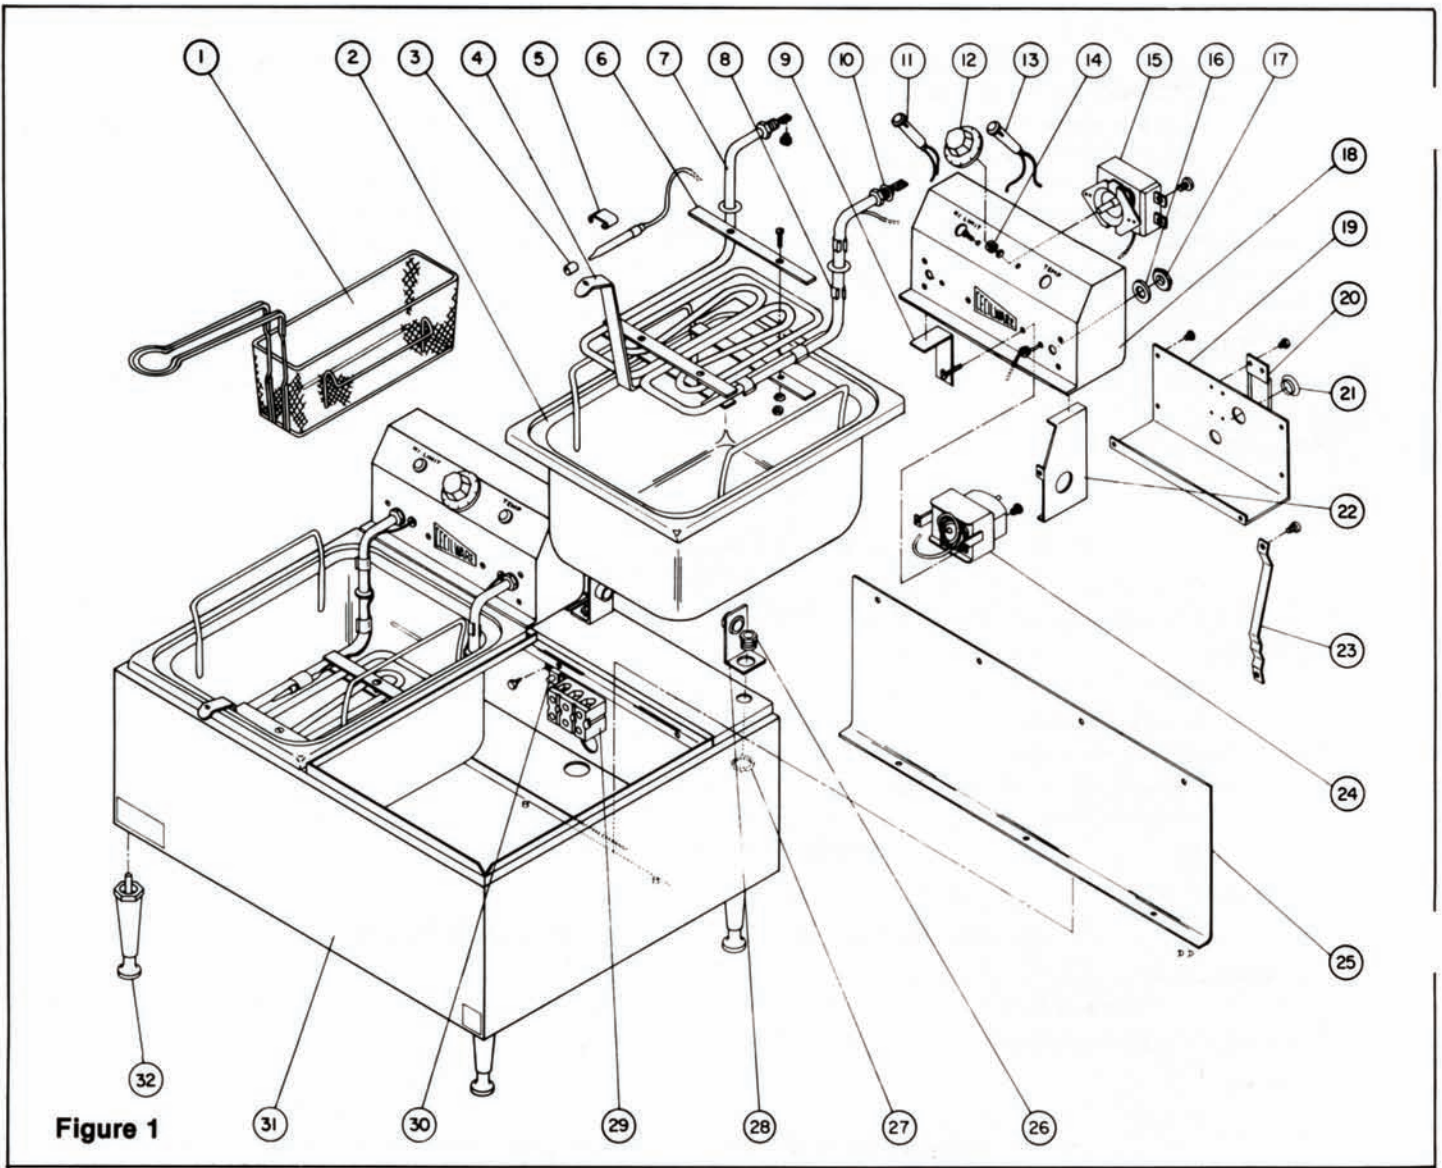
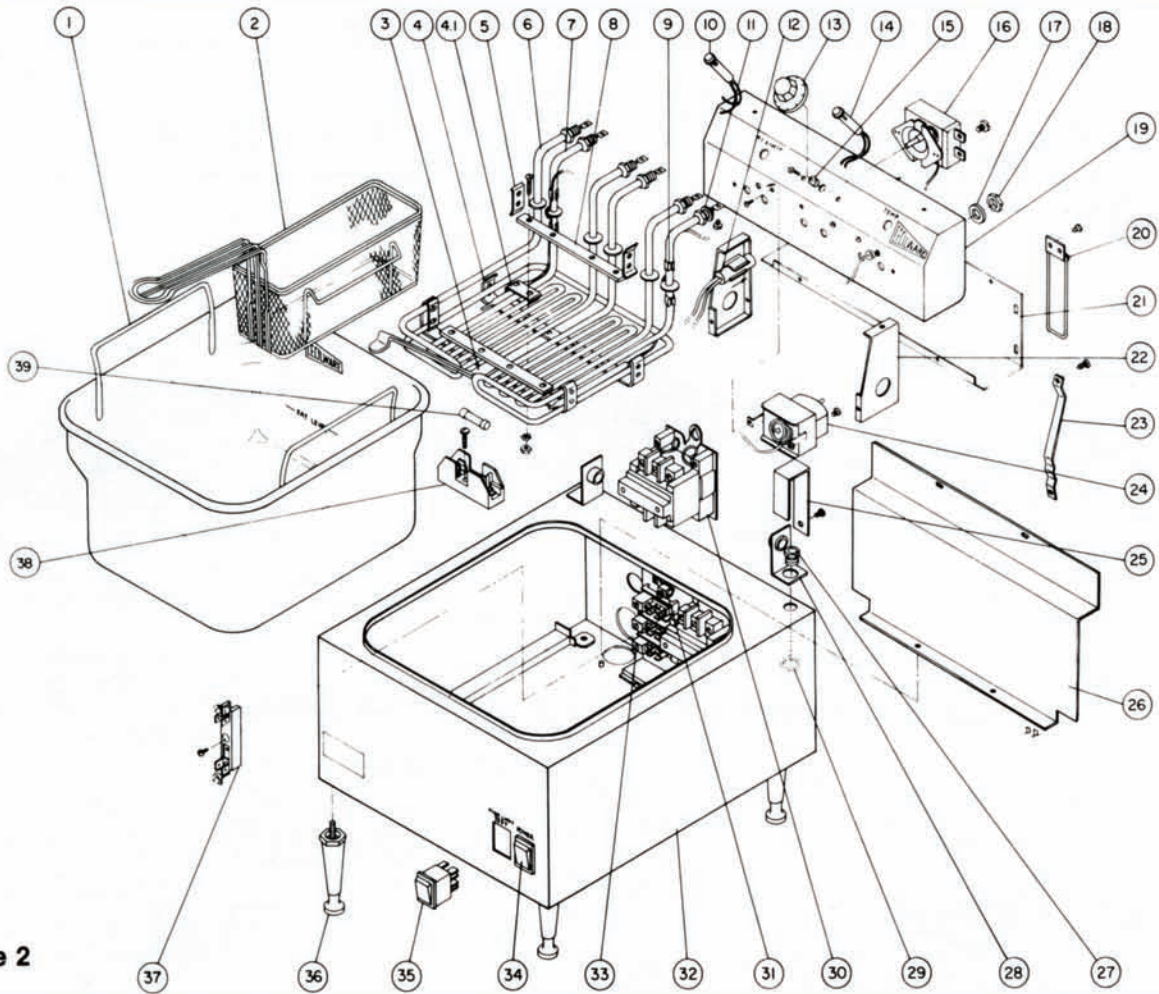

Figure 1
Figure 2
2. Take out the screws holding rear inner cover (25, figure 1, or 26, figure 2), and remove inner cover. Main terminal block (29, figure 1, or 33, figure 2) will be exposed.
5. Connect ground wire (No. 14 min.) to grounding lug (30, figure 1, or 31, figure 2), to comply with local electrical codes.
High Limit Control (24, figures 1 and 2): If, due to a defective thermostat, temperature of fat continues to rise, high limit control** automatically shuts off heating element(s). When this happens, red pilot light** on control panel comes on. If high limit control should activate, turn off thermostat and allow fryer to cool. Then press red reset button** on back of control panel, set thermostat back to desired temperature and resume frying. If high limit control reactivates, have fryer checked out by a qualified service person.
1. **High Limit Control Test** (EL750, 900 only): To test whether high limit control is working properly, place a suitable thermometer in fry tank with bulb deeply immersed in hot fat. Pressing Hi Limit Test Switch (35, figure 2) bypasses thermostat, allowing fat to continue to heat up until high limit control is activated. When red Hi Limit pilot light goes on, note temperature on thermometer (should be between 440° and 475° F.). Allow fryer to cool, then press red reset button(s) on back of control panel. If high limit control does not shut off fryer before 475° F. is reached, have it replaced.
CAUTION: Do not attempt to adjust high limit control. This control was set at the factory and must be replaced with a new one if it is not operating properly. The high limit control (24, figures 1 and 2) is located in control panel under the thermostat (except the EL600, which has two high limit control only in control panel) and is removed in a similar manner (described below).
Remove back cover of control panel. On all fryers except the EL600, thermostat (15, figure 1, or 16, figure 2) is located in control panel. Disconnect wires and remove mounting screws.